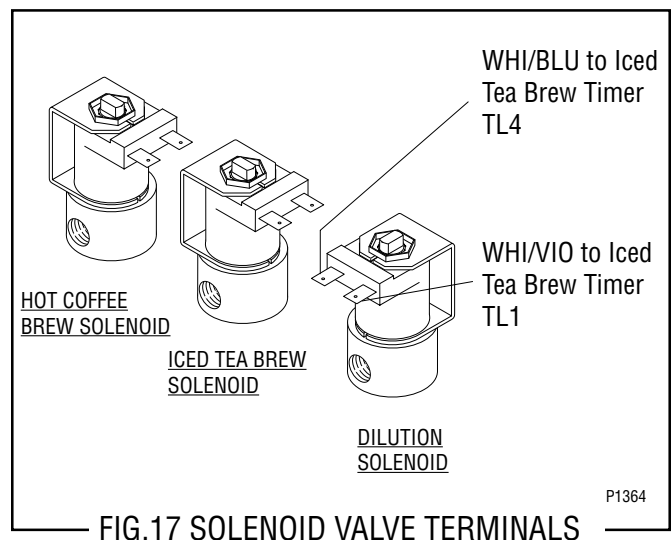

FIG. 17 SOLENOID VALVE TERMINALS
10. Refer to Fig. 17 when reconnecting the wires.